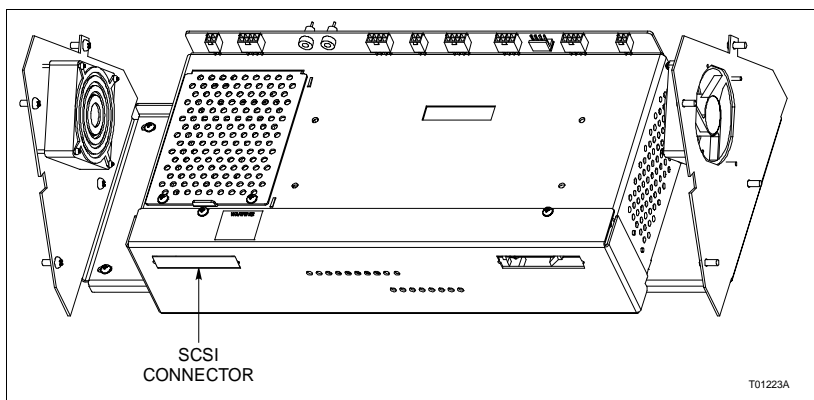

Figure PR39-2. SCSI Port
- 6. Remove the SCSI terminator from the SCSI connector on the NIU card cage. (Fig. PR39-2).